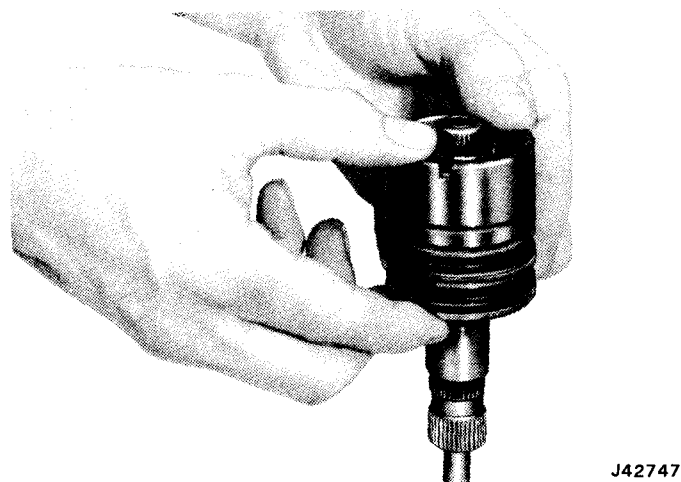

Fig. 11-76 Tapping Torsion Bar to Remove Valve Cap
(1) Remove valve body and stub shaft torsion bar assembly by grasping stub shaft torsion bar and pulling straight out.
(2) Remove cap-to-O-ring seal. Discard seal.
(3) Hold valve assembly in both hands with stub shaft pointing down. Tap stub shaft lightly against bench until shaft cap is free from valve body (fig. 11-76).